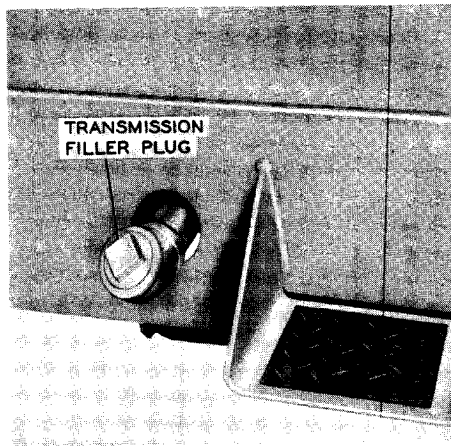

Figure 28
6. Pour 4 to 5 gallons of Type C Transmission Fluid through the Transmission filler opening, Figure 28.